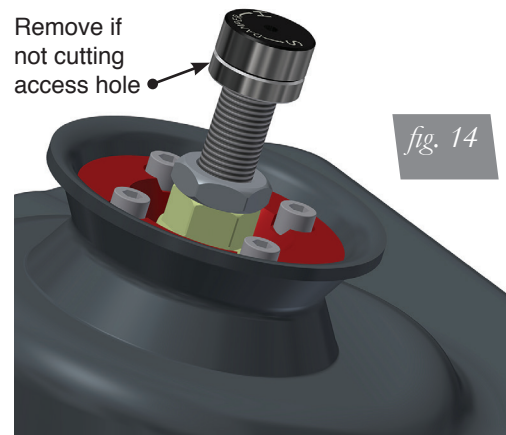

fig. 14
*If an access hole is not drilled, remove the damping adjustment knob from the shock by unthreading the knurled chromed portion of the damping adjuster (fig. 14).*